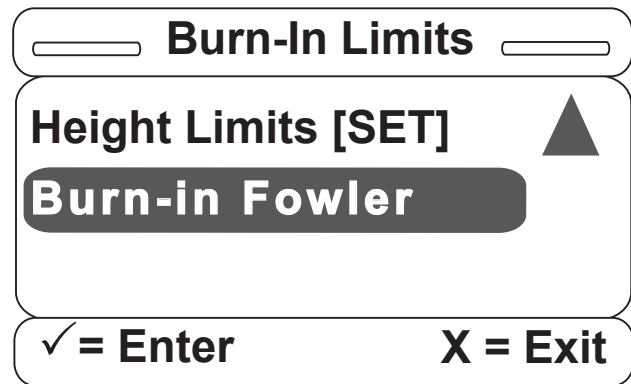

Figure S-34
32. Once the lock button is released, the message “Height Limit Set” will be displayed and the user will be returned to the screen in Figure S-34 (The height limits are now burned in.) The “SET” text indicates that the limits are set. The process is similar for the Burn-in Fowler routine.